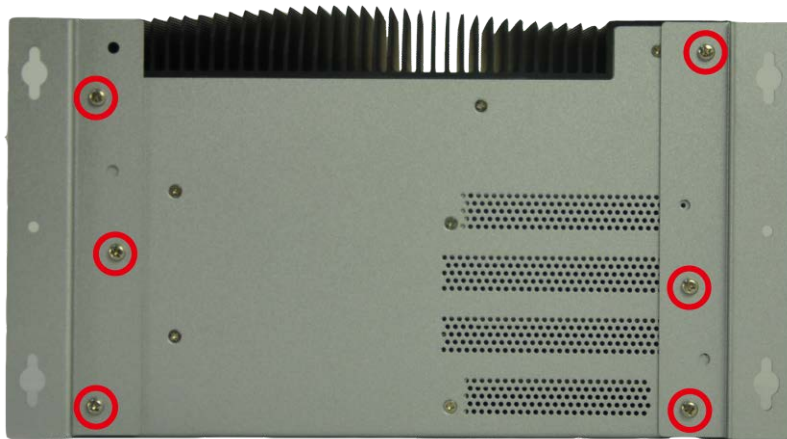

Figure 3-6: Mounting Bracket Retention Screws
Step 2: Align the three retention screw holes in each bracket with the corresponding retention screw holes on the bottom surface (**Figure 3-6**).
- Step 3:** Secure the brackets to the system by inserting two retention screws into each bracket (Figure 3-6).